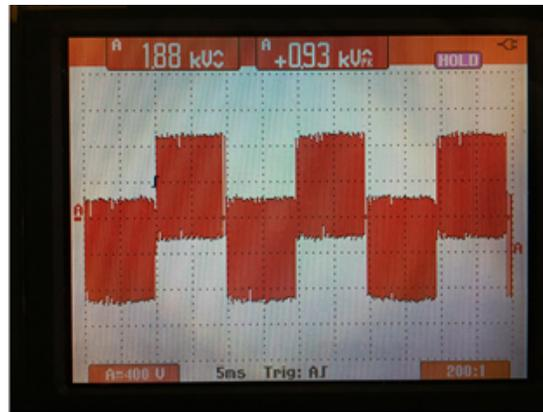

Figure 2 - PWM waveform taken at a motor with dV/dT filter
- Figure 2 is of a PWM waveform taken at a motor. System has a dV/dT filter.